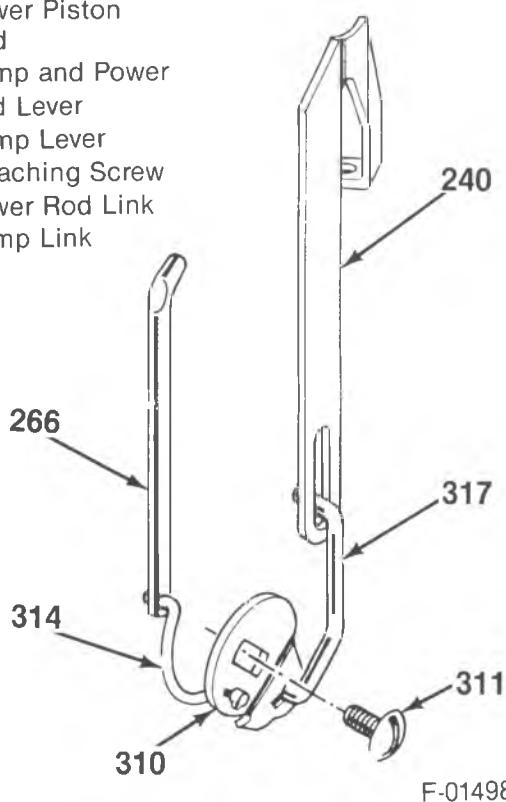

Figure 35 – Pump and Power Piston Linkage
- Pump assembly (246), with new pump plunger cup (247), and spring (248), (if not installed for pump system check).
- 4. Pump return spring (252) in pump well.
- 5. New pump rod seal (242) over boss on float bowl.
- 6. Pump assembly (246) and pump rod (240).
**Assemble (Figure 35)**
- Pump link (317) and power rod link (314) to pump and power rod lever (310) as shown in Figure 35.